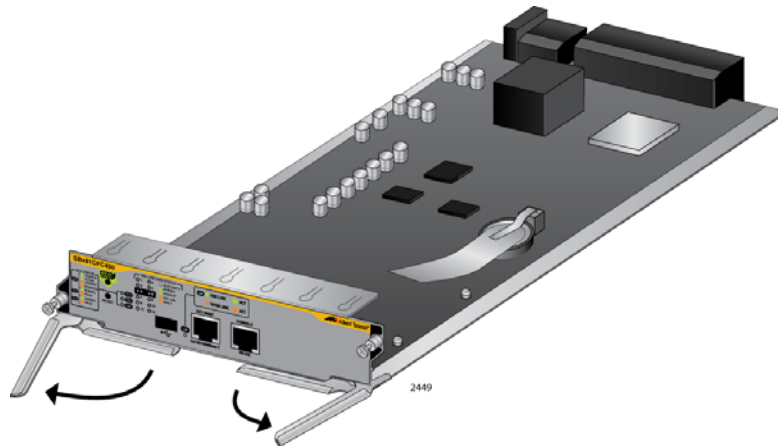

Figure 64. Opening the Locking Handles on the AT-SBx81CFC400 Controller Fabric Card
4. Move the locking handles on the front panel to the open position, as shown in Figure 64 on page 124.